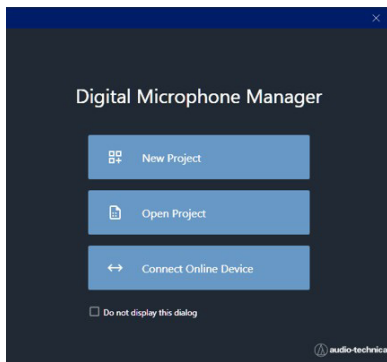

Figure 4. Digital Microphone Manager Main Menu
3. Launch Digital Microphone Manager (see figure 4).